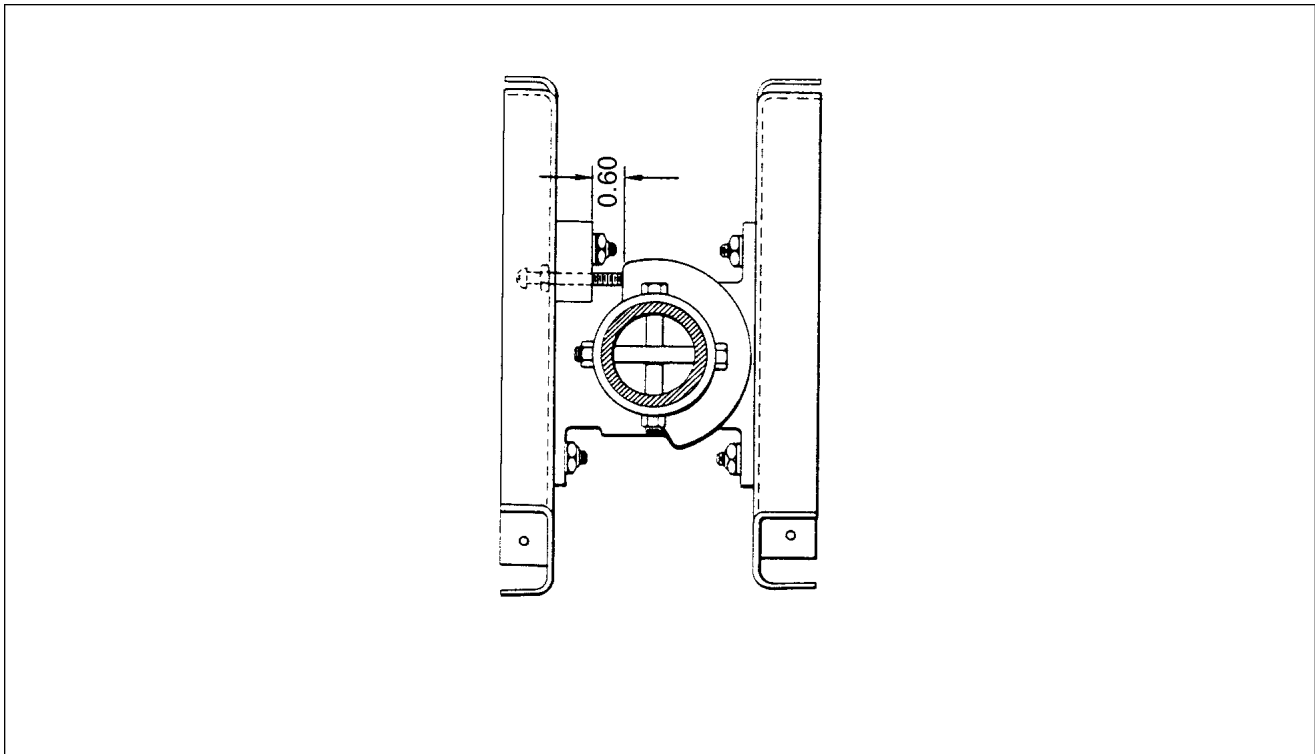

Figure 5-22. Flap Stop Adjustment
2. Turn the stop screw to obtain approximately 0.60 inch between the stop fitting and the bearing block as measured along the top side of the screw. (Refer to Figure 5-22.) It may be necessary to loosen the left stop adjustment screw.